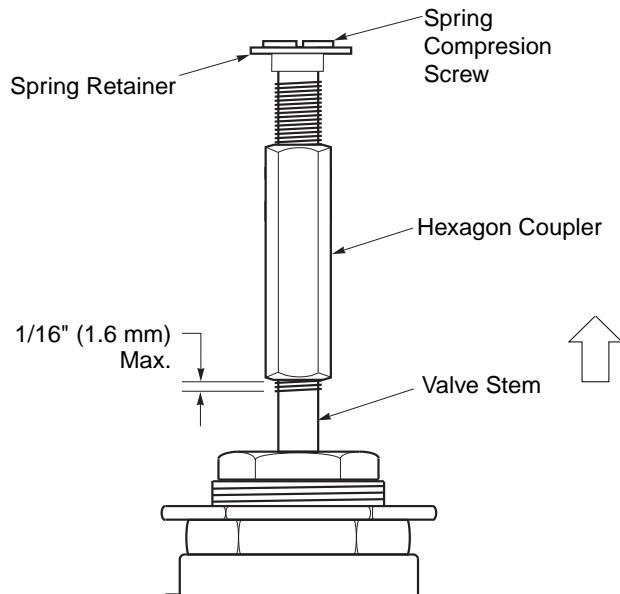

Figure-1 Installation of Hexagon Coupler and Spring Compression Screw.
1. Select the appropriate spring(s) as detailed in Figure-1.
2. Thread the hexagon coupler onto the valve stem all the way to the bottom of the stem thread, finger-tight (Figure-1). Pull the valve stem completely up.